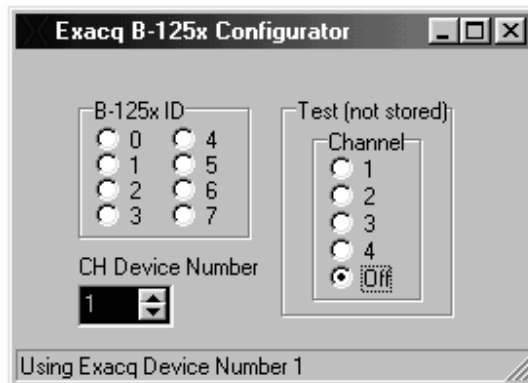

Figure 9-7 – B1250Cfg Main Screen
- Start the B1250Cfg application. It should appear similar to the screen shot in figure 9-7 below